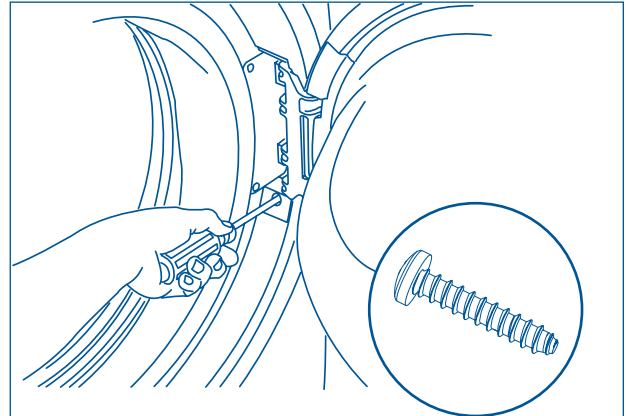

Figure 2-38.
2. Install the trim plug with 1 long, coarse thread, panhead screw. (See Figure 2-38)